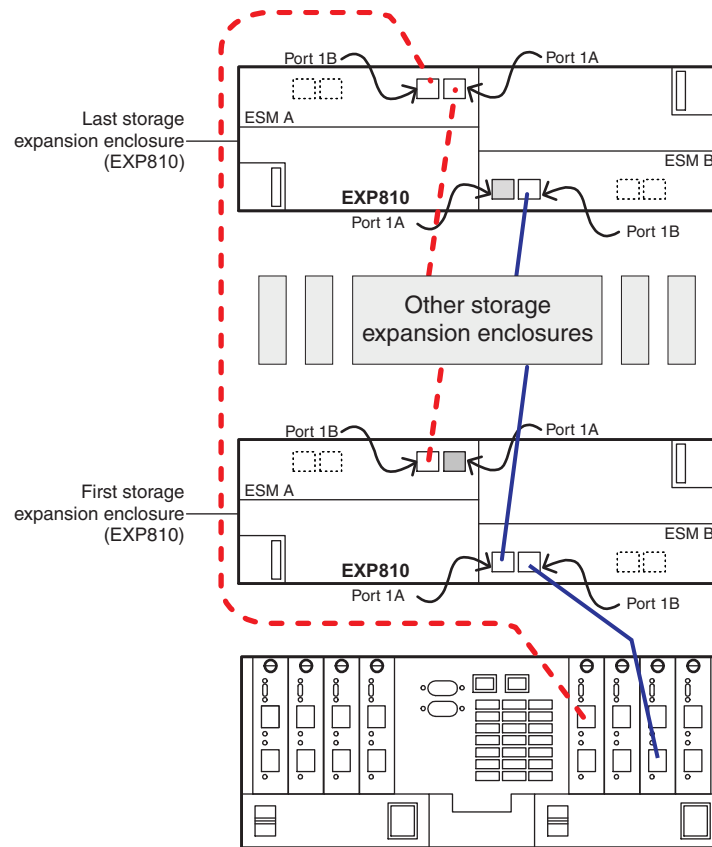
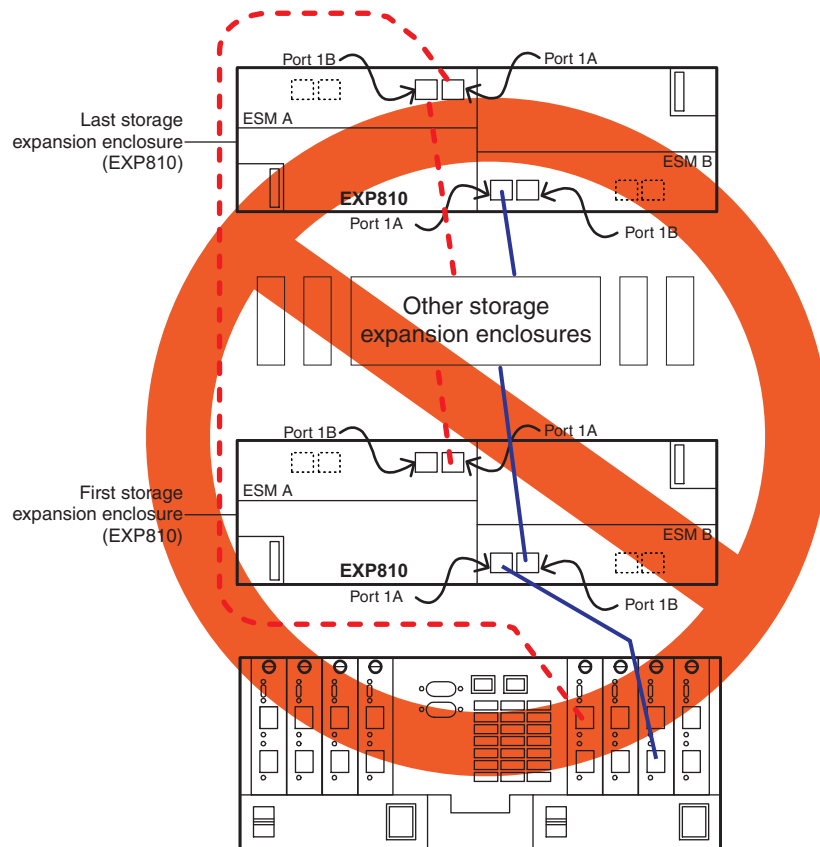

Figure 16. Supported cabling to EXP420/EXP520/EXP810/EXP5000 storage enclosure port 1B
Figure 17. Unsupported cabling to the EXP420/EXP520/EXP810/EXP5000 storage enclosure port
- The storage subsystem drive expansion port must always be connected to the EXP420/EXP520/EXP810/EXP5000 storage enclosure port 1B. Figure 16 on page 53 is an example of correctly cabling the EXP420/EXP520/EXP810/EXP5000 storage enclosure 1B ports to the storage subsystem drive expansion port. Figure 17 on page 54 is an example of incorrect cabling that shows the connection from the storage subsystem drive expansion port to the incorrect EXP420/EXP520/EXP810/EXP5000 storage enclosure port, labeled 1A.